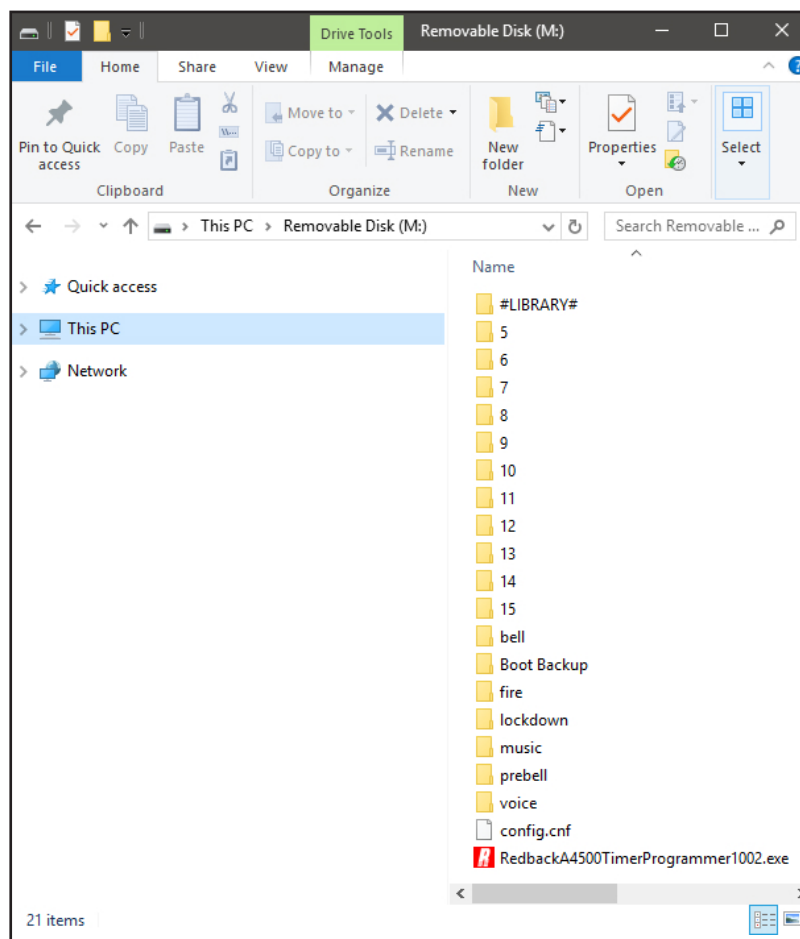

Fig 2.1
For the unit to function correctly, the supplied SD card must be installed and have MP3 files in each of the Lockdown, Fire, Bell, Prebell and Music folders as shown in Fig 2.1.
Step 2: Go to “My Computer” or “This PC” and open the Micro SD card which is usually marked “Removable disk”. In this case it is named “Removable disk (O:)”. Select the removable disk and then you should get a window that looks like figure 2.1.